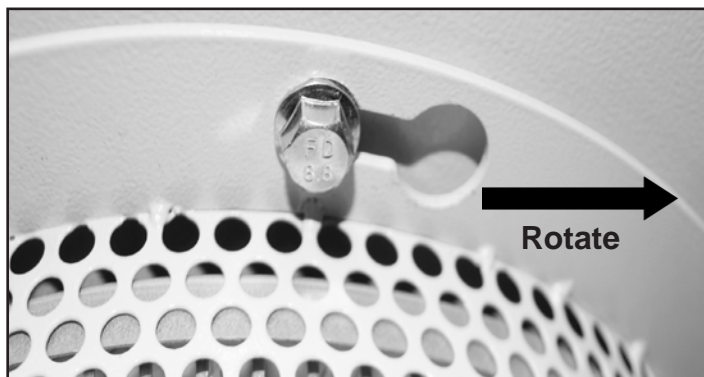

FIG. 23
2. Lift the Filter Cartridge Assembly to the Dust Plenum, taking note of the two key hole slots cut into the flange. Engage the bolts (installed in the previous step) into the key hole slots. Rotate the Filter Cartridge Assembly to the right, temporarily holding it in place. Fig. 23.